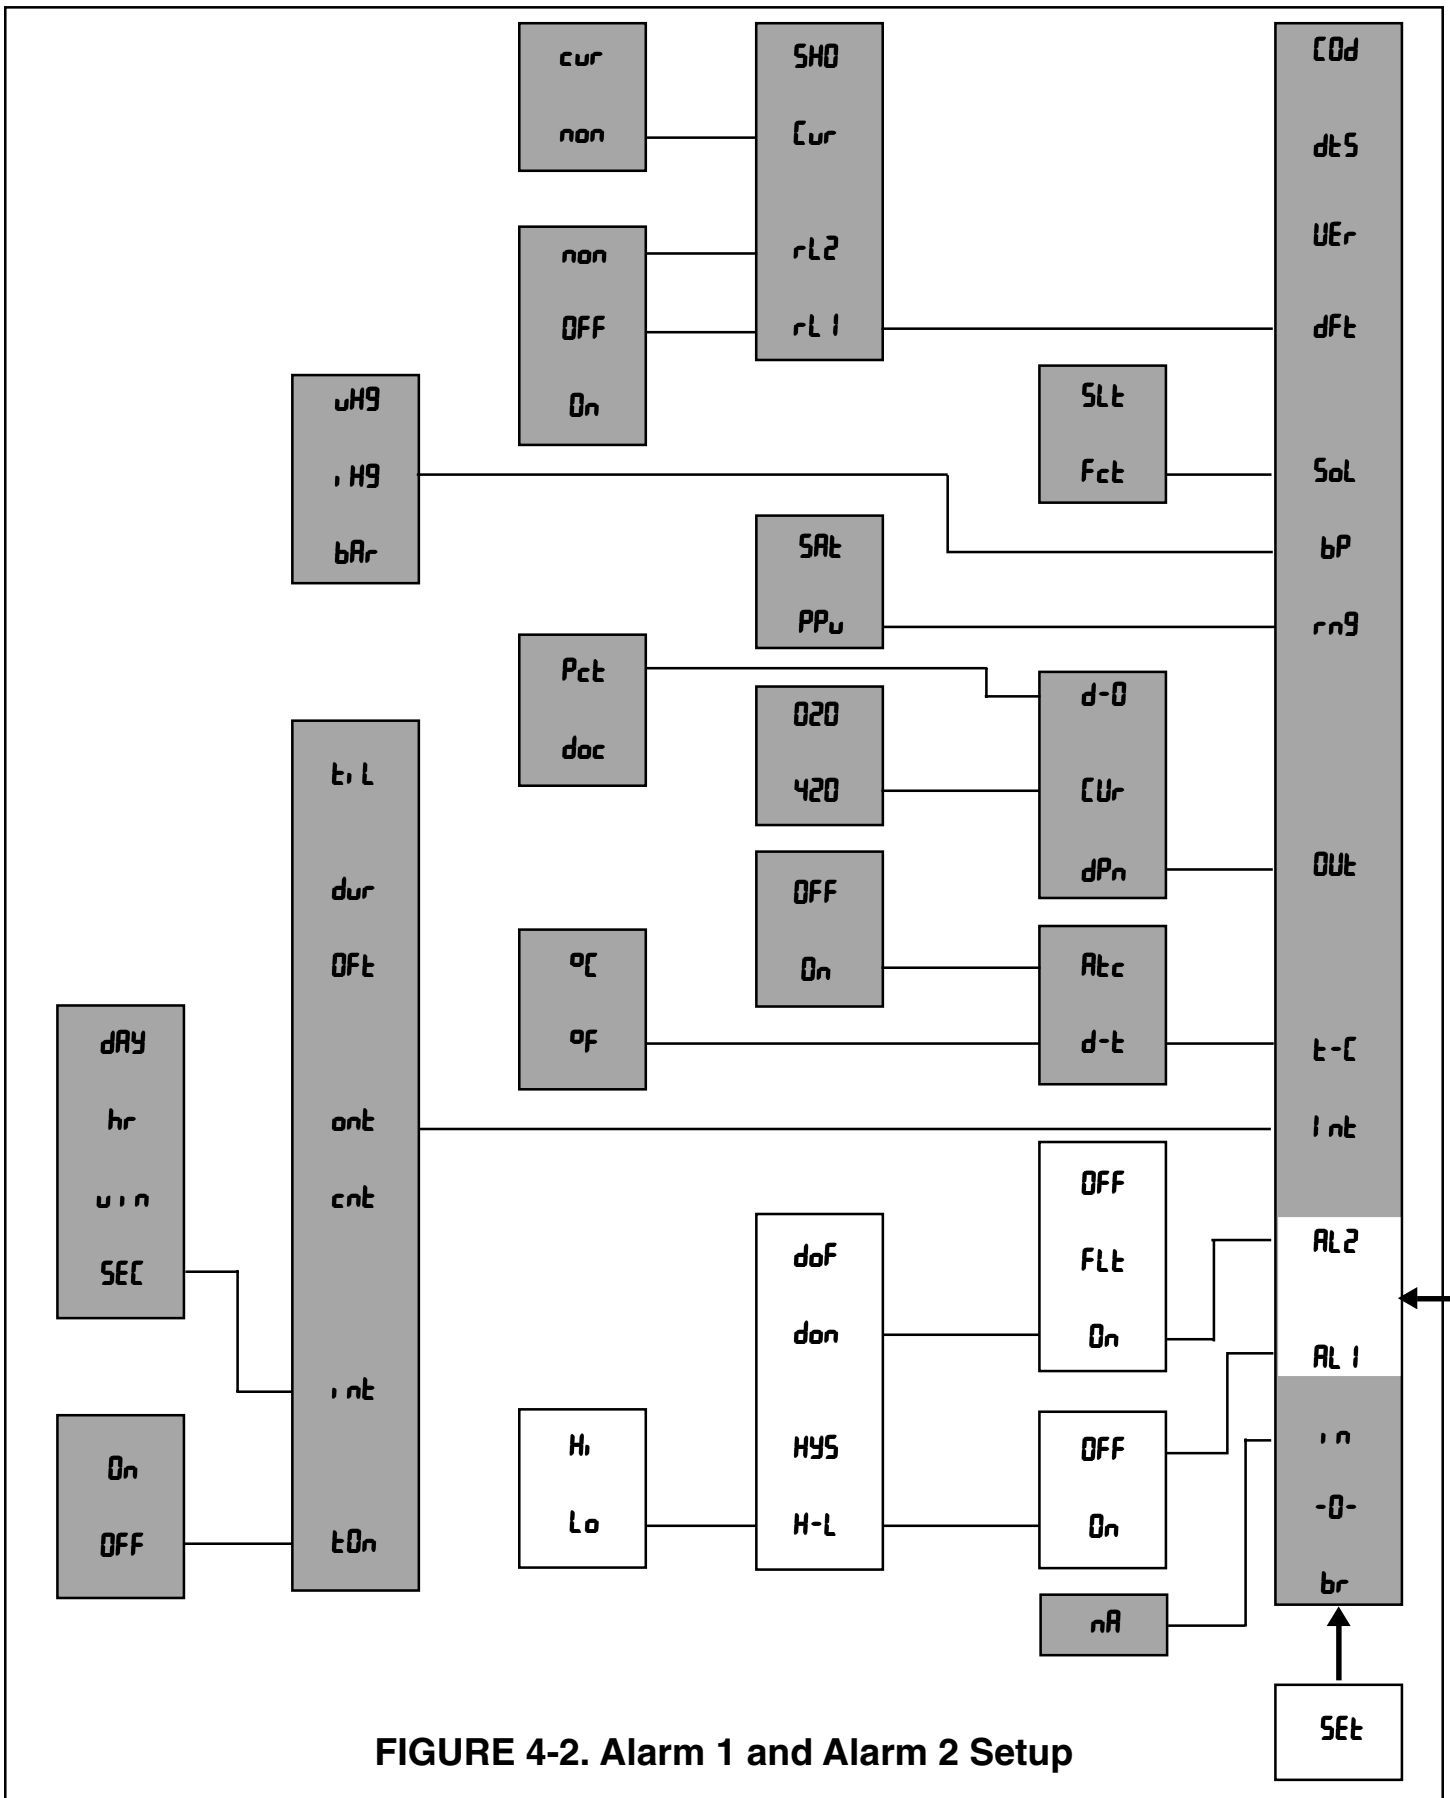

FIGURE 4-2. Alarm 1 and Alarm 2 Setup
4.2.1 Alarm Setup (RL 1/RL 2). Refer to Figure 4-2 and Table 4-1.